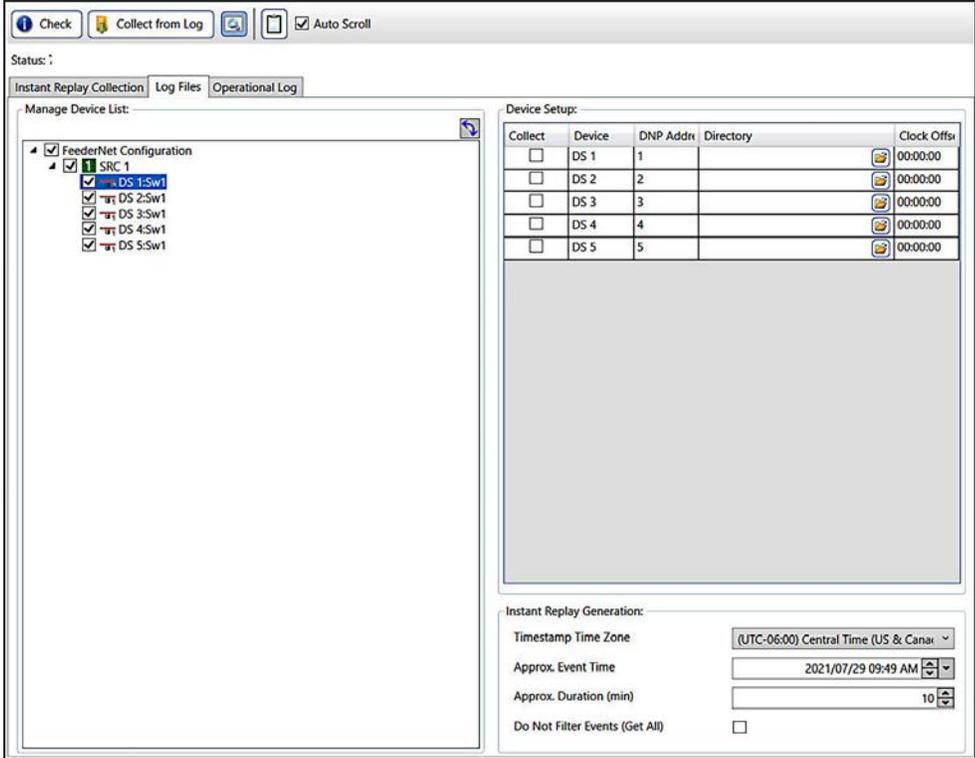

Figure 116. The Communication Manager—Log Files screen.
- STEP 5.** Click the **Communicate to Devices** button in the upper toolbar. The IntelliTeam SG Communication Manager dialog box will open. Click on the **Log Files** tab. See Figure 116 on page 115.